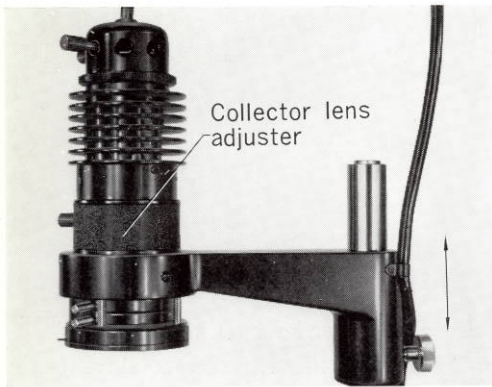

Fig. 16
- Releasing the clamp screw on the lamp housing bracket, move the bracket along the post. The height of the lamp housing depends upon the magnification of the objective, that is, the lower the magnification, the closer the position of the lamp to the condenser, and vice versa. (Fig. 16)
- When using the ordinary condenser, utilize the built-in aperture diaphragm. When using the long-focus condenser, attach the condenser (aperture) diaphragm onto any hole in the turret. Close the condenser diaphragm. Move in or out the collector lens in the lamp housing, until the image of the lamp filament on the closed condenser diaphragm is brought into focus, the size of this image being made slightly larger than a required opening of the diaphragm. (Fig. 16)